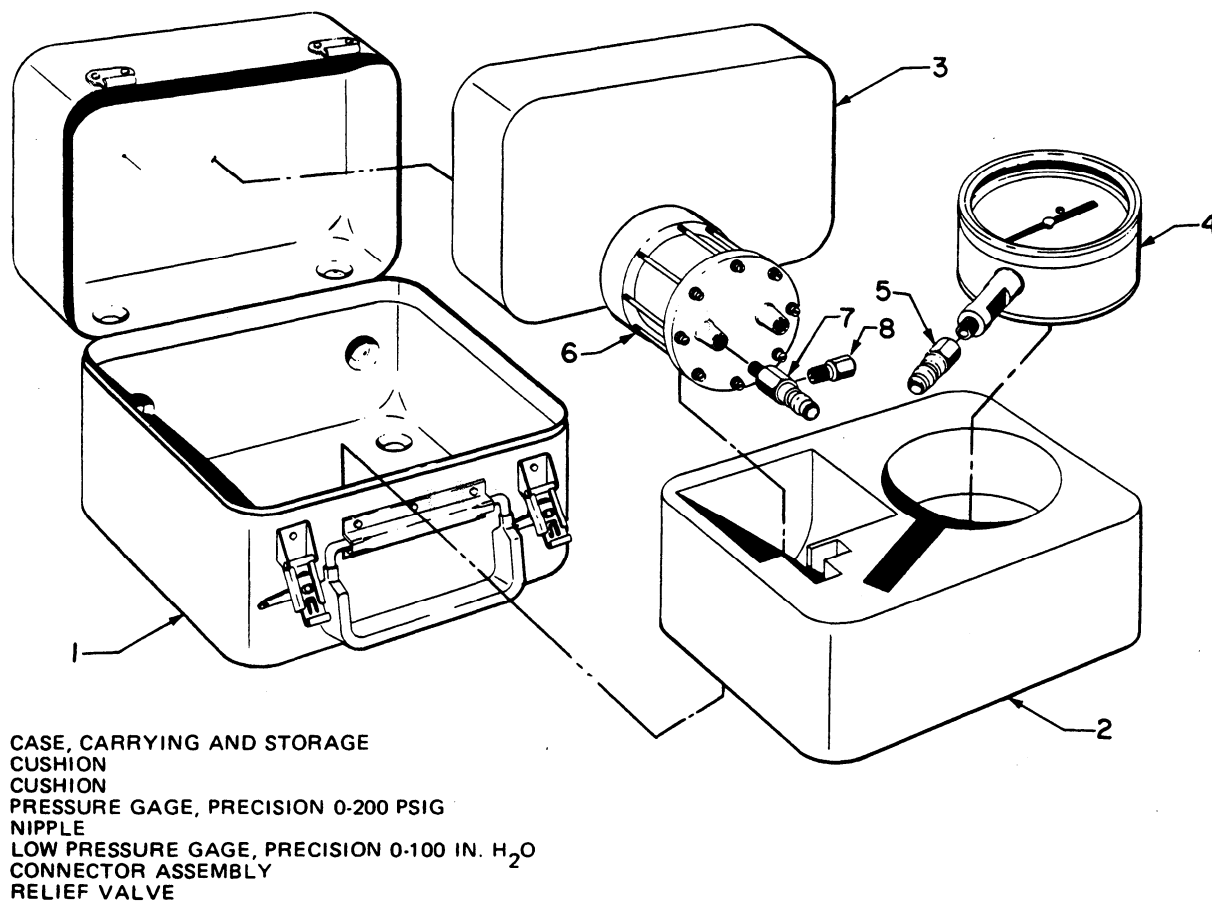

Figure 1-3.—Pressure Gage Calibration Kit.
1. Close system bleed valve V-5 and open the oxygen supply cylinder valve. Connect precision-0-to-100-in. H2O low-pressure gage 6 (figure 1-3) to bell jar bottom coupling C-1. Open differential pressure shutoff valve V-8.
1. Connect precision-0-to-200-psig pressure gage 4 (figure 1-3) to bell jar bottom coupling C-1.
1. With precision-0-to-200-psig test gage 4 (figure 1-3) still attached to bell jar bottom coupling C-1, open oxygen supply valve V-6 until 7.5 psig is indicated on the precision-0-to-200-psig test gage. The pointer of low-pressure